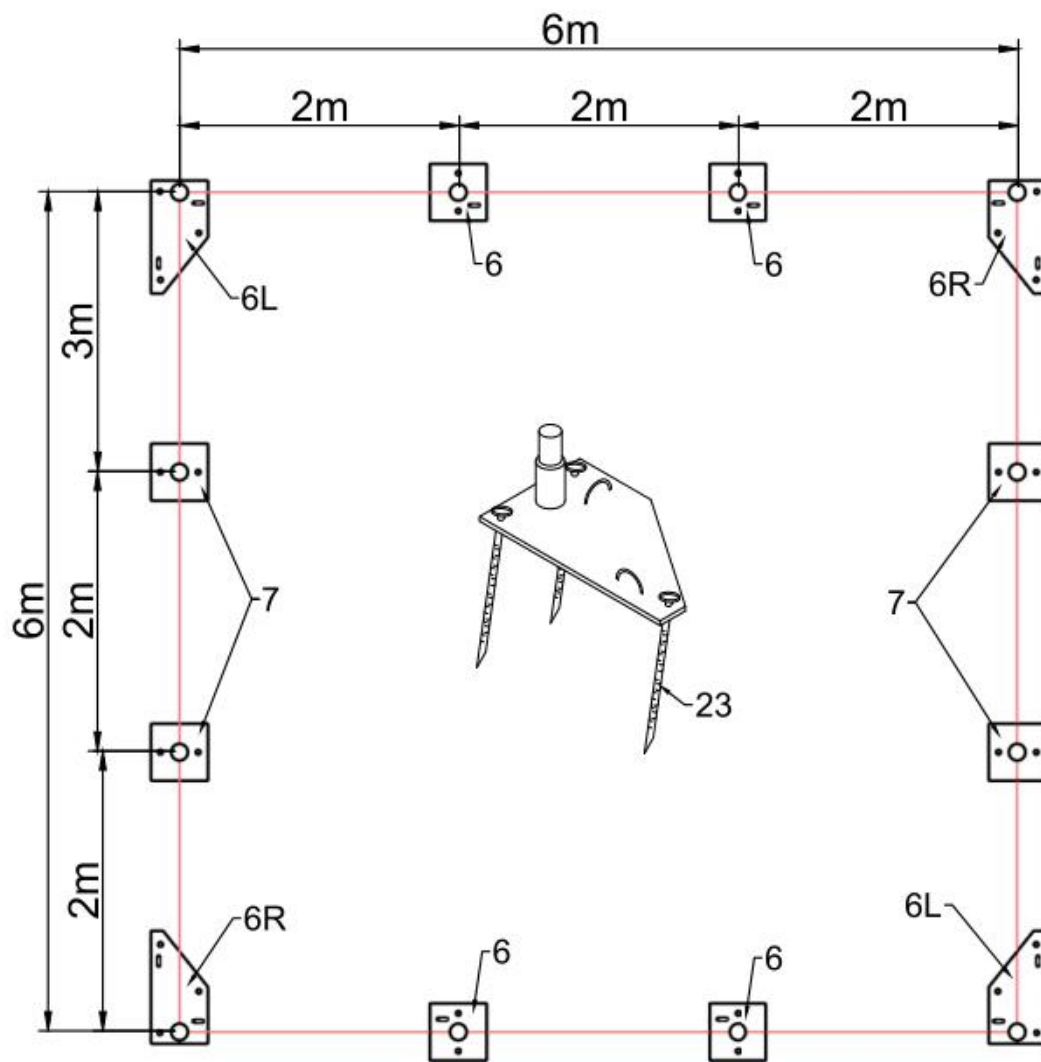

Figure 2
1. Please refer to the diagram (Figure 2) to place the base plates(No.6/6L/6R/7). The measurement is from center to center of tubes on the base palates. Referring to the above diagram and confirm the place of base plates.
2. As Figure 2 shows each Base plate is equipped with 3 pieces of Stake Peg(No.23). There are three holes on the plates for Stake Peg(No.23).